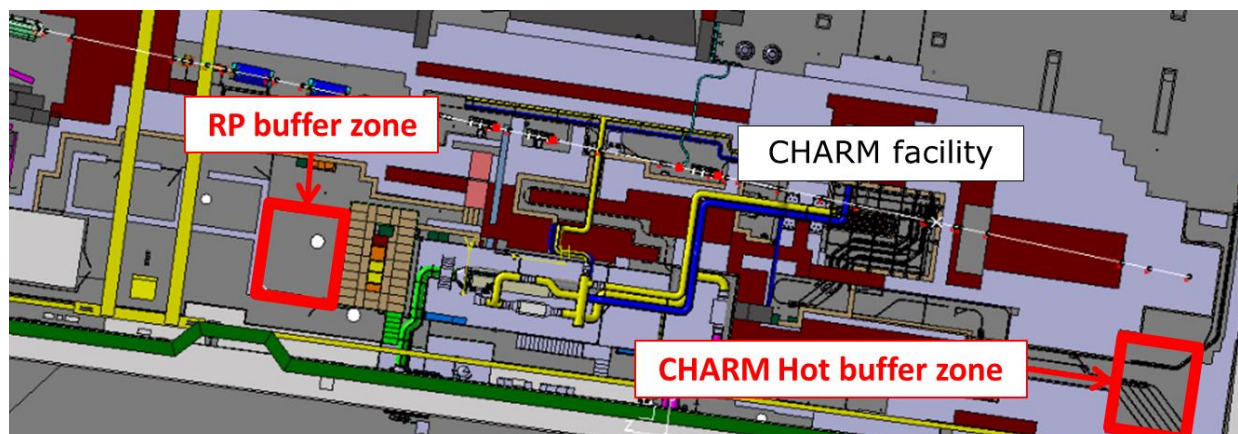

Figure 11 : Buffer zones.
- The RP buffer zone (Figure 11) if the dose rate is $< 50 \mu\text{Sv/h}$ at 10 cm;
- The CHARM hot buffer zone (Figure 11) if the dose rate in $> 50 \mu\text{Sv/h}$ at 10 cm.